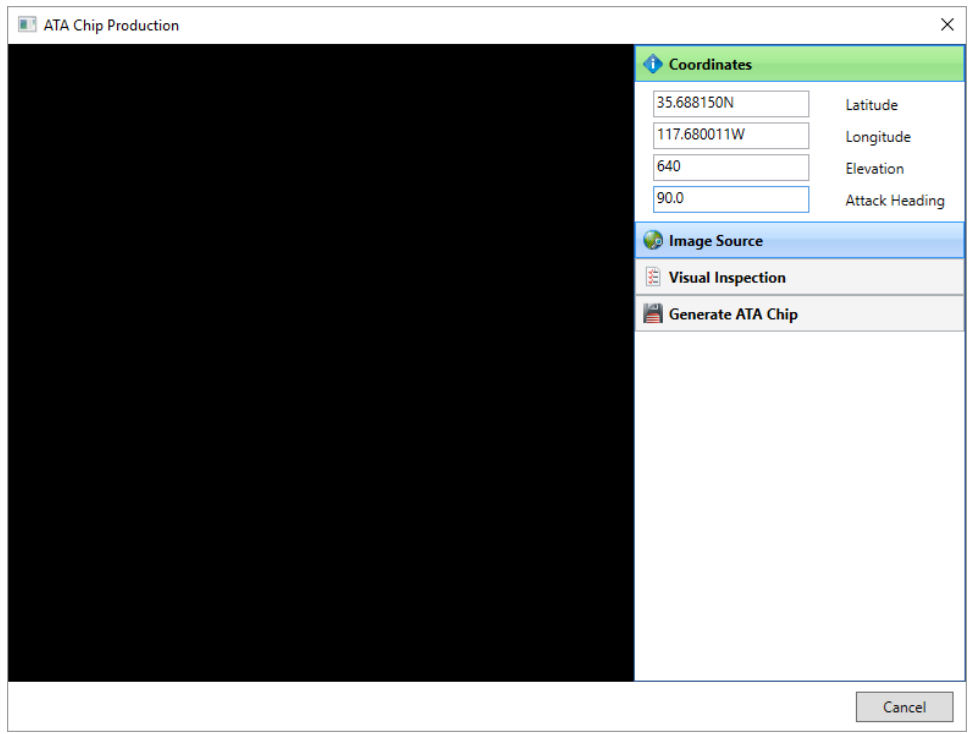

Figure 74. Stage 1: Specify the target coordinates.
1. The first stage of the workflow is the Coordinates section (Figure 74). Input the latitude, longitude, elevation, and attack heading (optional) for the desired target location. Once you have provided valid data for the mandatory fields, the Image Source stage will become active.